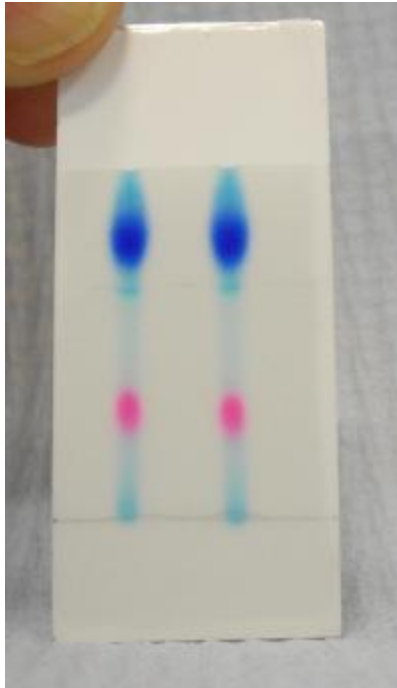

Figure 5. Separated dyes
4. You should see the dyes in the mixture separate out (Fig. 5).